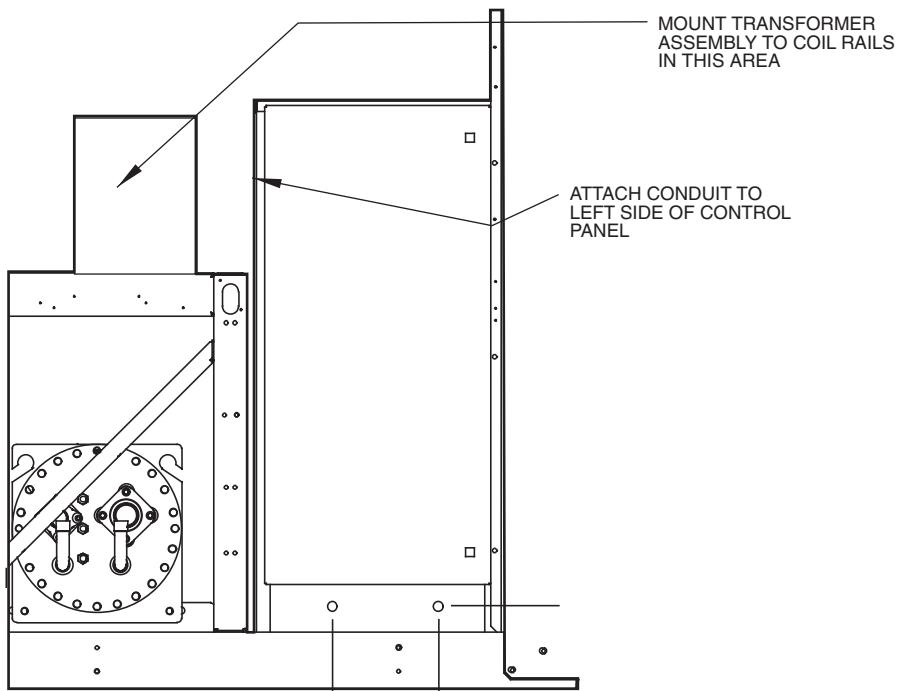

Fig. 1 — Transformer Enclosure Mounting, Sizes 060-120 (460,575 V) and 060,070 (208/230 V)
3. The transformer is shipped mounted in an enclosure. The 30RB060-120 460,575 v units and the 30RB060, 070 208/230 v units require that the transformer be left in this enclosure and mounted to the chiller rails to the left of the control panel. See Fig. 1.